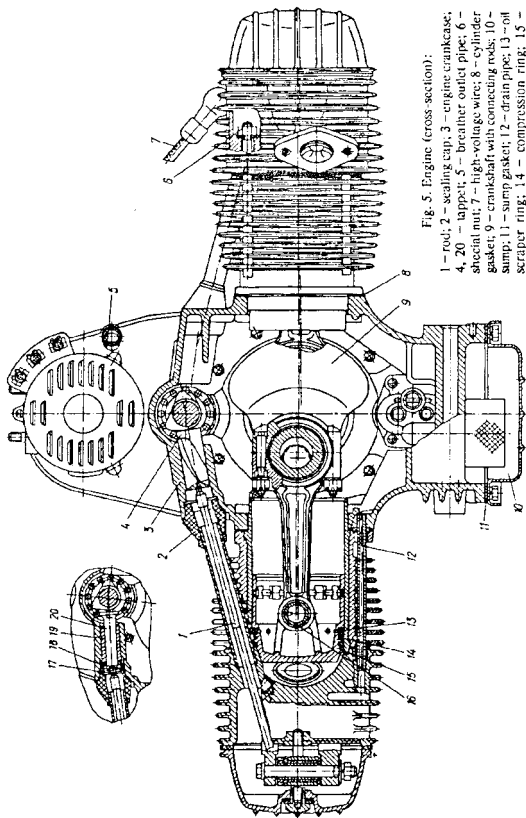
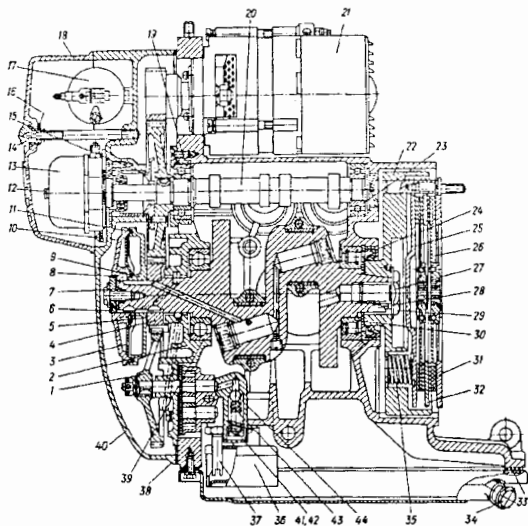
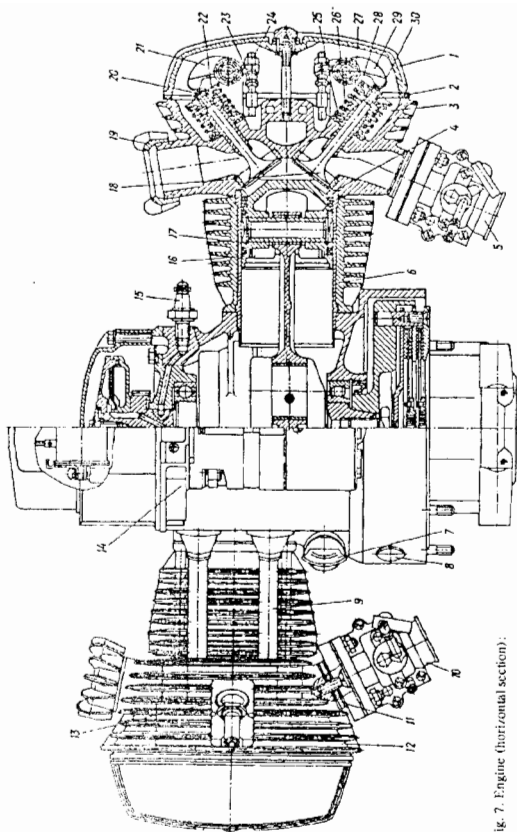
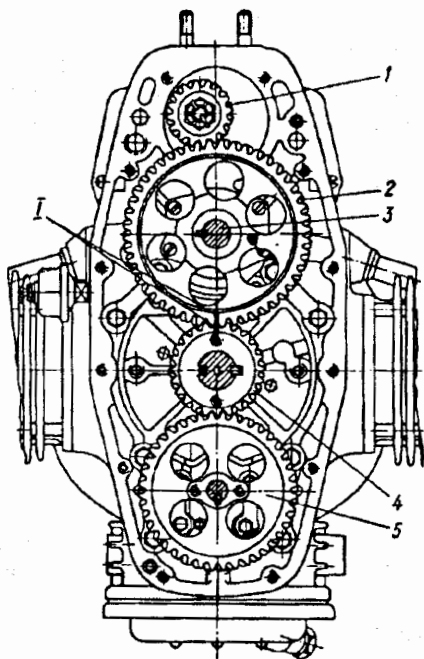

Fig. 5. Engine (cross-section):
Fig. 6. Engine (longitudinal section):
Fig. 7. Engine (horizontal section):
Fig. 8. Engine gears:
As regards its design features and technical characteristics, the engine (Figs 5, 6, 7) is classified as a road-type hopped-up motorcycle engine.
The crankshaft is installed in the engine crankcase on two bearing 30 (Fig. 6) and 39. Fitted on the crankshaft front end is driving timing gear 4 and centrifuge, flywheel 22 is mounted on the tapered portion of the rear end.
Piston, piston rings and piston pins. Engine piston 15 (Fig. 5) consists of a crown, skirt and bosses. The piston has four grooves in which piston rings are fitted. Two upper rings 14 (compression) provide the required air-tightness in the cylinder and prevent the gases from breaking through from the combustion chamber into the crankcase.
Piston 16 (Fig. 7) is linked with the connecting rod by means of a floating pin whose axial displacement is limited by two spring lock rings 17 inserted into the annular recesses of piston bosses.
Crankcase. Crankcase 3 (Fig. 5) which is cast from aluminium alloy is the main base member of the engine.
During engine operation, some portion of the air-fuel mixture and exhaust gases force their way into the crankcase through piston ring clearances. Besides, as the pistons move to the lower dead centre, the gases in the crankcase space are compressed and under their pressure the oil may leak out from the crankcase-to-cover joints and through the glands. To prevent this, forced ventilation of the crankcase is used. To open the crankcase inner space to atmosphere as the pistons move down and seal it off from atmosphere as the pistons move upward, breather 15 (Fig. 6) is provided, which is located in the central hole of cover 40 of the timing gear box.
Cylinders. The engine has identical interchangeable bimetallic cylinders 6 (Fig. 7). The cylinder is essentially an aluminium jacket with a cast iron sleeve. The lower portion of the cylinder is provided with a flange having holes passing through all the fins, for anchor studs fastening the cylinders and their heads to the crankcase. The cylinder upper portion has an annular collar entering the recess in the head.
The valve timing gear controls the opening and closing of the outlet and inlet valves at the appropriate instants corresponding to a definite crankshaft rotation angle. The valve timing gear consists of camshaft 3 (Fig. 8), tappets 4 (Fig. 5), rods 1, rockers 21 (Fig. 7) and 29, adjusting bolts 23, lock nuts 24, outlet (22) and inlet (18) valves with caps 20, springs 26, 27, bearing disks 25, 28 and blocks 30. Mounted at the front part of the camshaft is driven gear 2 (Fig. 8) with which driving timing gear 4 and generator drive gear 1 move into mesh. The camshaft is installed in the engine crankcase on two ball bearings 19 (Fig. 6) and 23. The correct valve timing is ensured by matching the marks on timing gears 2 (Fig. 8) and 4 during assembly.
The engine may be fitted with tappets of another design (see ref. Nos 17, 18, 19 and 20, (Fig. 5) whose working end is faced with a special alloy.
If the clearance is set improperly, slacken lock nut 24 (Fig. 7) and, rotating adjusting bolt 23 in one direction or the other, set the required clearance. Following that, tighten up the lock nut. The clearance is to be adjusted on a cold engine and must be equal to 0.07 mm. If there is no clearance or the clearance is too small, the valve will not fit closely to its seat at the instant of closure; if the clearance is too large, the beginning of valve opening will lag behind and filling the cylinder with air-fuel mixture will be impaired. To adjust the clearance in the other cylinder, turn the crankshaft by one revolution (by 360°), following which check and adjust the valves as directed above.
After getting into tappet slots O, the atomized oil enters the rod casings, settles in them and flows down into the cylinder heads. Here the oil is splashed by the valves and springs and lubricates the valves and rockers. Excess oil flows down drain pipe 6 back into the crankcase. If the mushroom tappets 20 (Fig. 5) are installed on the engine, the atomized oil gets into the rod casings through the hole in the crankcase near the tappet guide bushings.